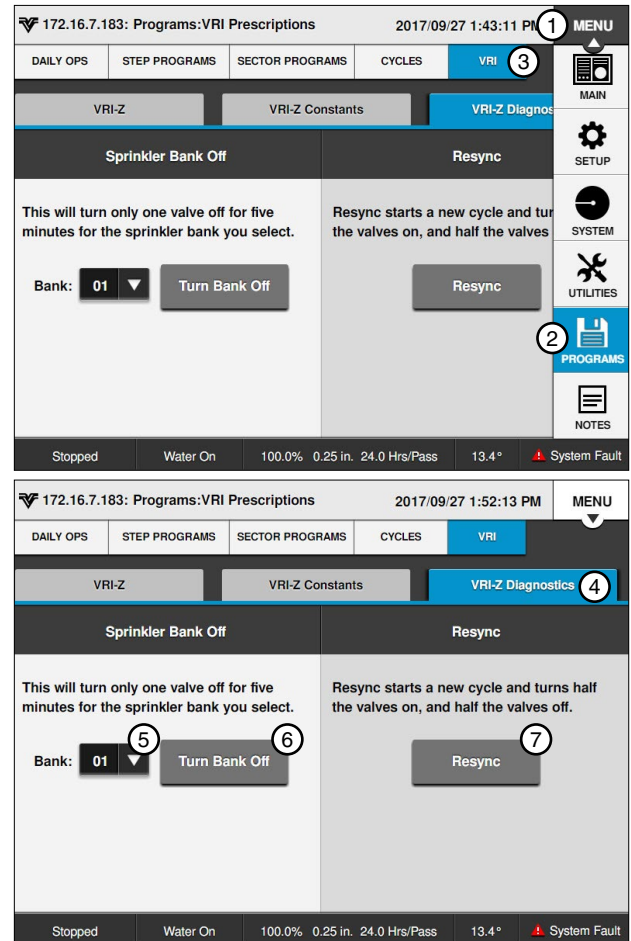

Figure 167-1 1. Menu 5. Bank
1. Push **Menu**, **Programs**, **VRI**, and **VRI-Z Diagnostics** to display the VRI-Z Diagnostics screen. Refer to Figure 167-1.